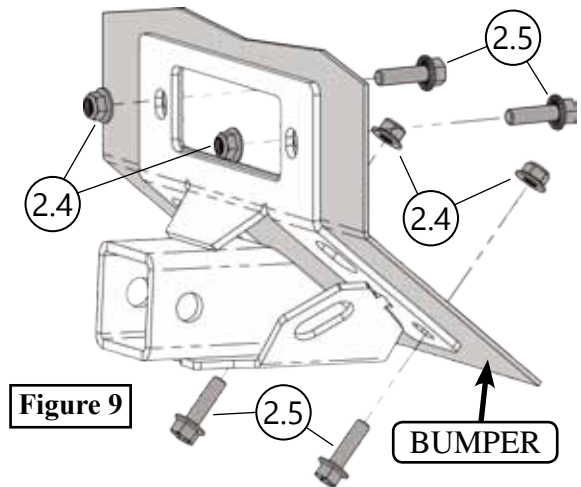

Figure 9
5. NO WINCH: Install bolts (2.5) from the backside. Go through bumper and receiver, then secure with nuts (2.4). Install lower bolts as shown in **Figure 9**.